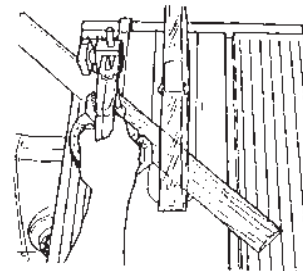

Figure C-11
2. Mark the stock where you want to cut it. (It's easiest to measure from the outside corners of the miter.) Clamp the stock in the miter gauge and line it up with the blade. From this point on, the procedure is similar to crosscutting. See Figure C-11.